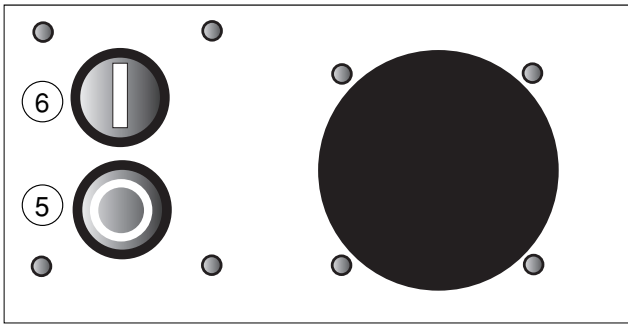

fig.15.1 Start and stop knob
- See figure 15.1.
- See figure15.1.